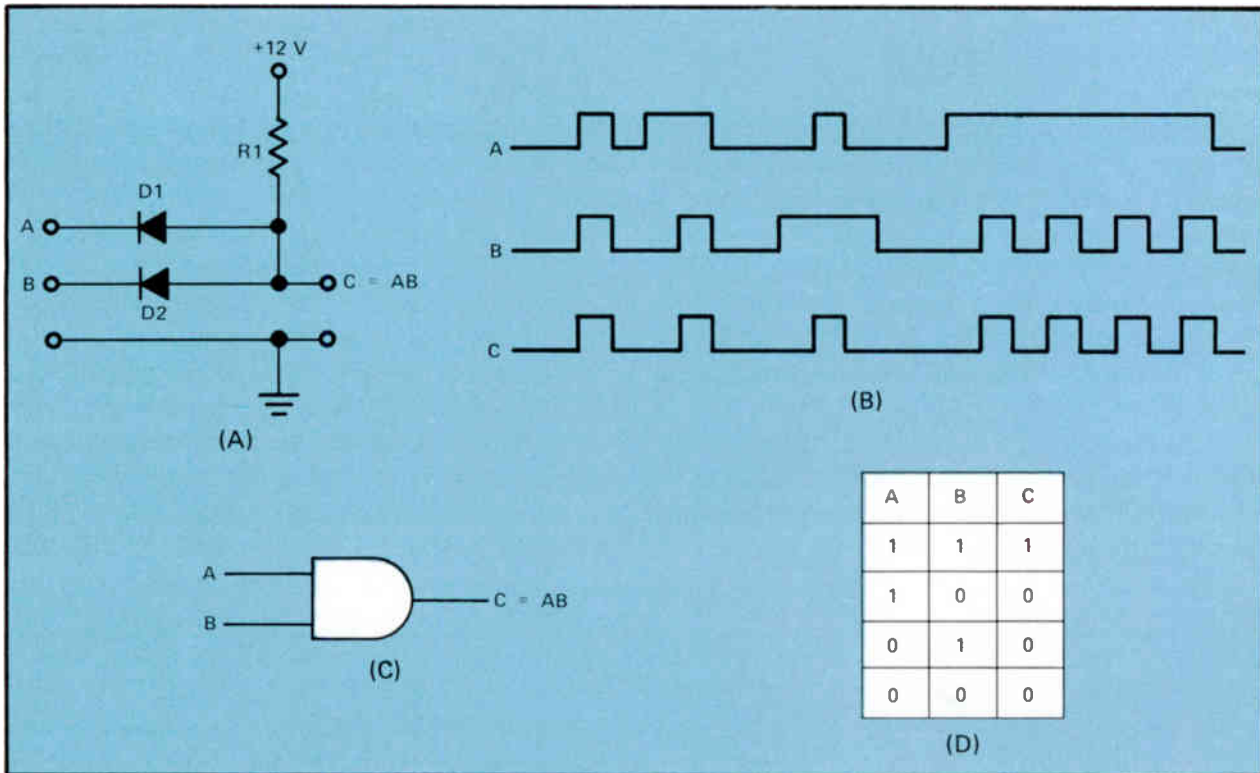
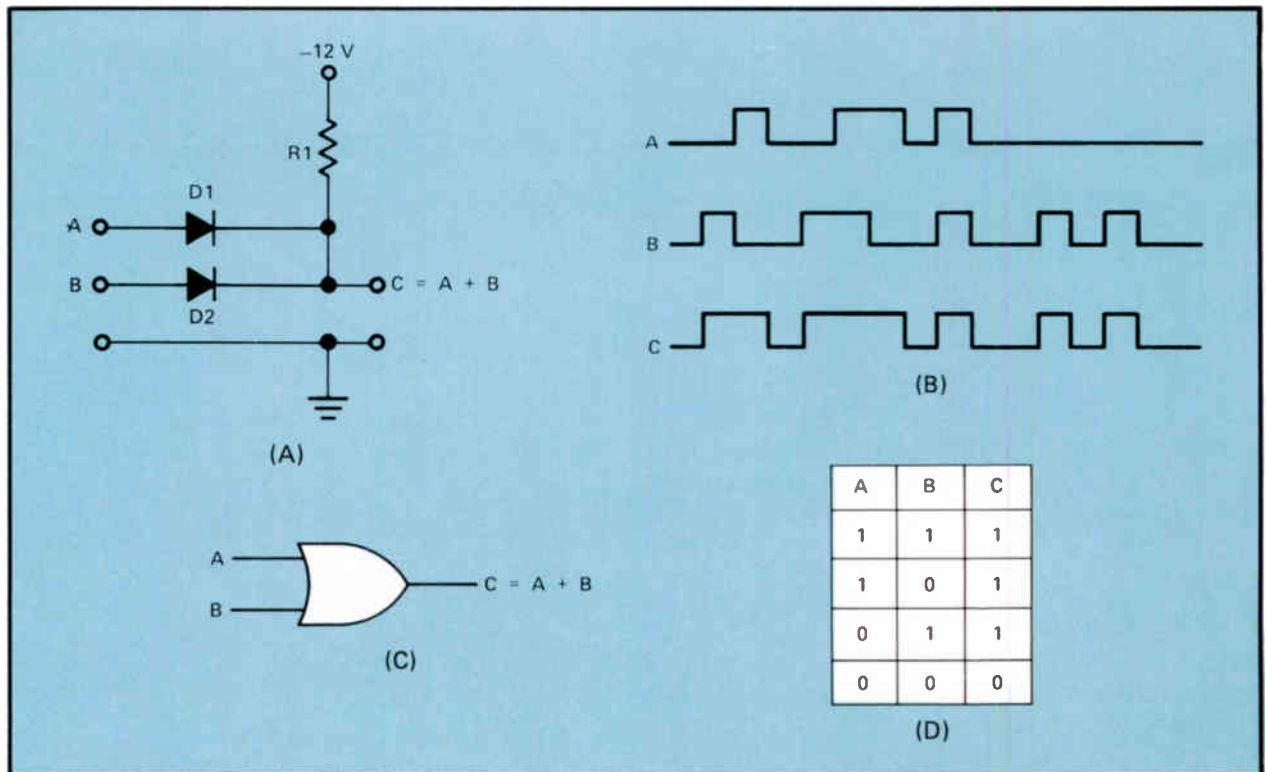

Figure 27. (A) The schematic symbol of a diode AND gate, and (B) the input and output signals. (C) The symbol for an AND gate, and (D) the truth table.
Figure 29. (A) A schematic diagram of an OR gate, and (B) input signals. (C) The symbol for the OR gate, and (D) the truth table.
A semiconductor AND gate is shown in Fig.27(A). To see how this gate works, we will apply a logic level 0 to either input by grounding the input. We will apply a logic level 1 by connecting the negative terminal of a 6 volt battery to ground and the positive terminal to the input to which we wish to apply a logic level 1.
In Fig.27(B), we've shown two signals applied to inputs A and B and the output they will produce at output C. Notice that there is a binary 1, represented by the positive voltage at the output of C, only when there is a binary 1 present at both inputs A and B. At all other times, the output at C is zero.
The symbol for an AND gate is shown in Fig.27(C). Notice that we have used the mathematical expression $C = AB$ to designate the AND operation. The gate output is designated C and the inputs are designated A and B. The equation tells us that the output C occurs when both A and B are present.
The truth table for an AND gate is shown in Fig.27(D). Notice that when we have binary 1 at inputs A and B, we have a binary 1 at output C. With all other combinations, the output will be 0 at C. Only when we have a binary 1 at A and B will we have a binary 1 at C.
The schematic diagram of a diode OR gate is shown in Fig.29(A). To see how the circuit works, we will do the same for logic level 0 and 1 as we did with the AND gate. For 0, we'll ground the input terminal. For 1, we'll connect the negative terminal of the 6 volt battery to ground and the positive terminal to the input to which we wish to apply logic level 1.
Figure 29(B) shows input signals applied to inputs A and B and the output produced at terminal C. Figure 29(C) is the symbol used for an OR gate. Notice the mathematical expression $C = A + B$ used to represent the OR gate. This is read $C = A$ or B . The truth table for the OR gate is shown in Fig.29(D).
Let's go back and look at the gate shown in Fig.27. Remember that when we discussed this gate previously, we said that we'd use +6 volts as one binary level and zero volts as the other. With 0 volts at either input, we had 0 in the output. The only time we got +6 V in the output was when we applied +6 V to both inputs. With negative logic, where 1 is
represented by 0 volts and 0 is represented by +6 V, we get a logic level 1 (0 volts) at C when either A or B, or both, are grounded. We get a logic level 0 (+6 volts) only when +6 volts (logic level 0) is applied to both inputs. This means that with negative logic, the diode gate shown in Fig.27, which worked as an AND gate with positive logic, will function as an OR gate with negative logic. Similarly, the diode gate shown in Fig.29, which functions as an OR gate with positive logic, will function as an AND gate with negative logic.